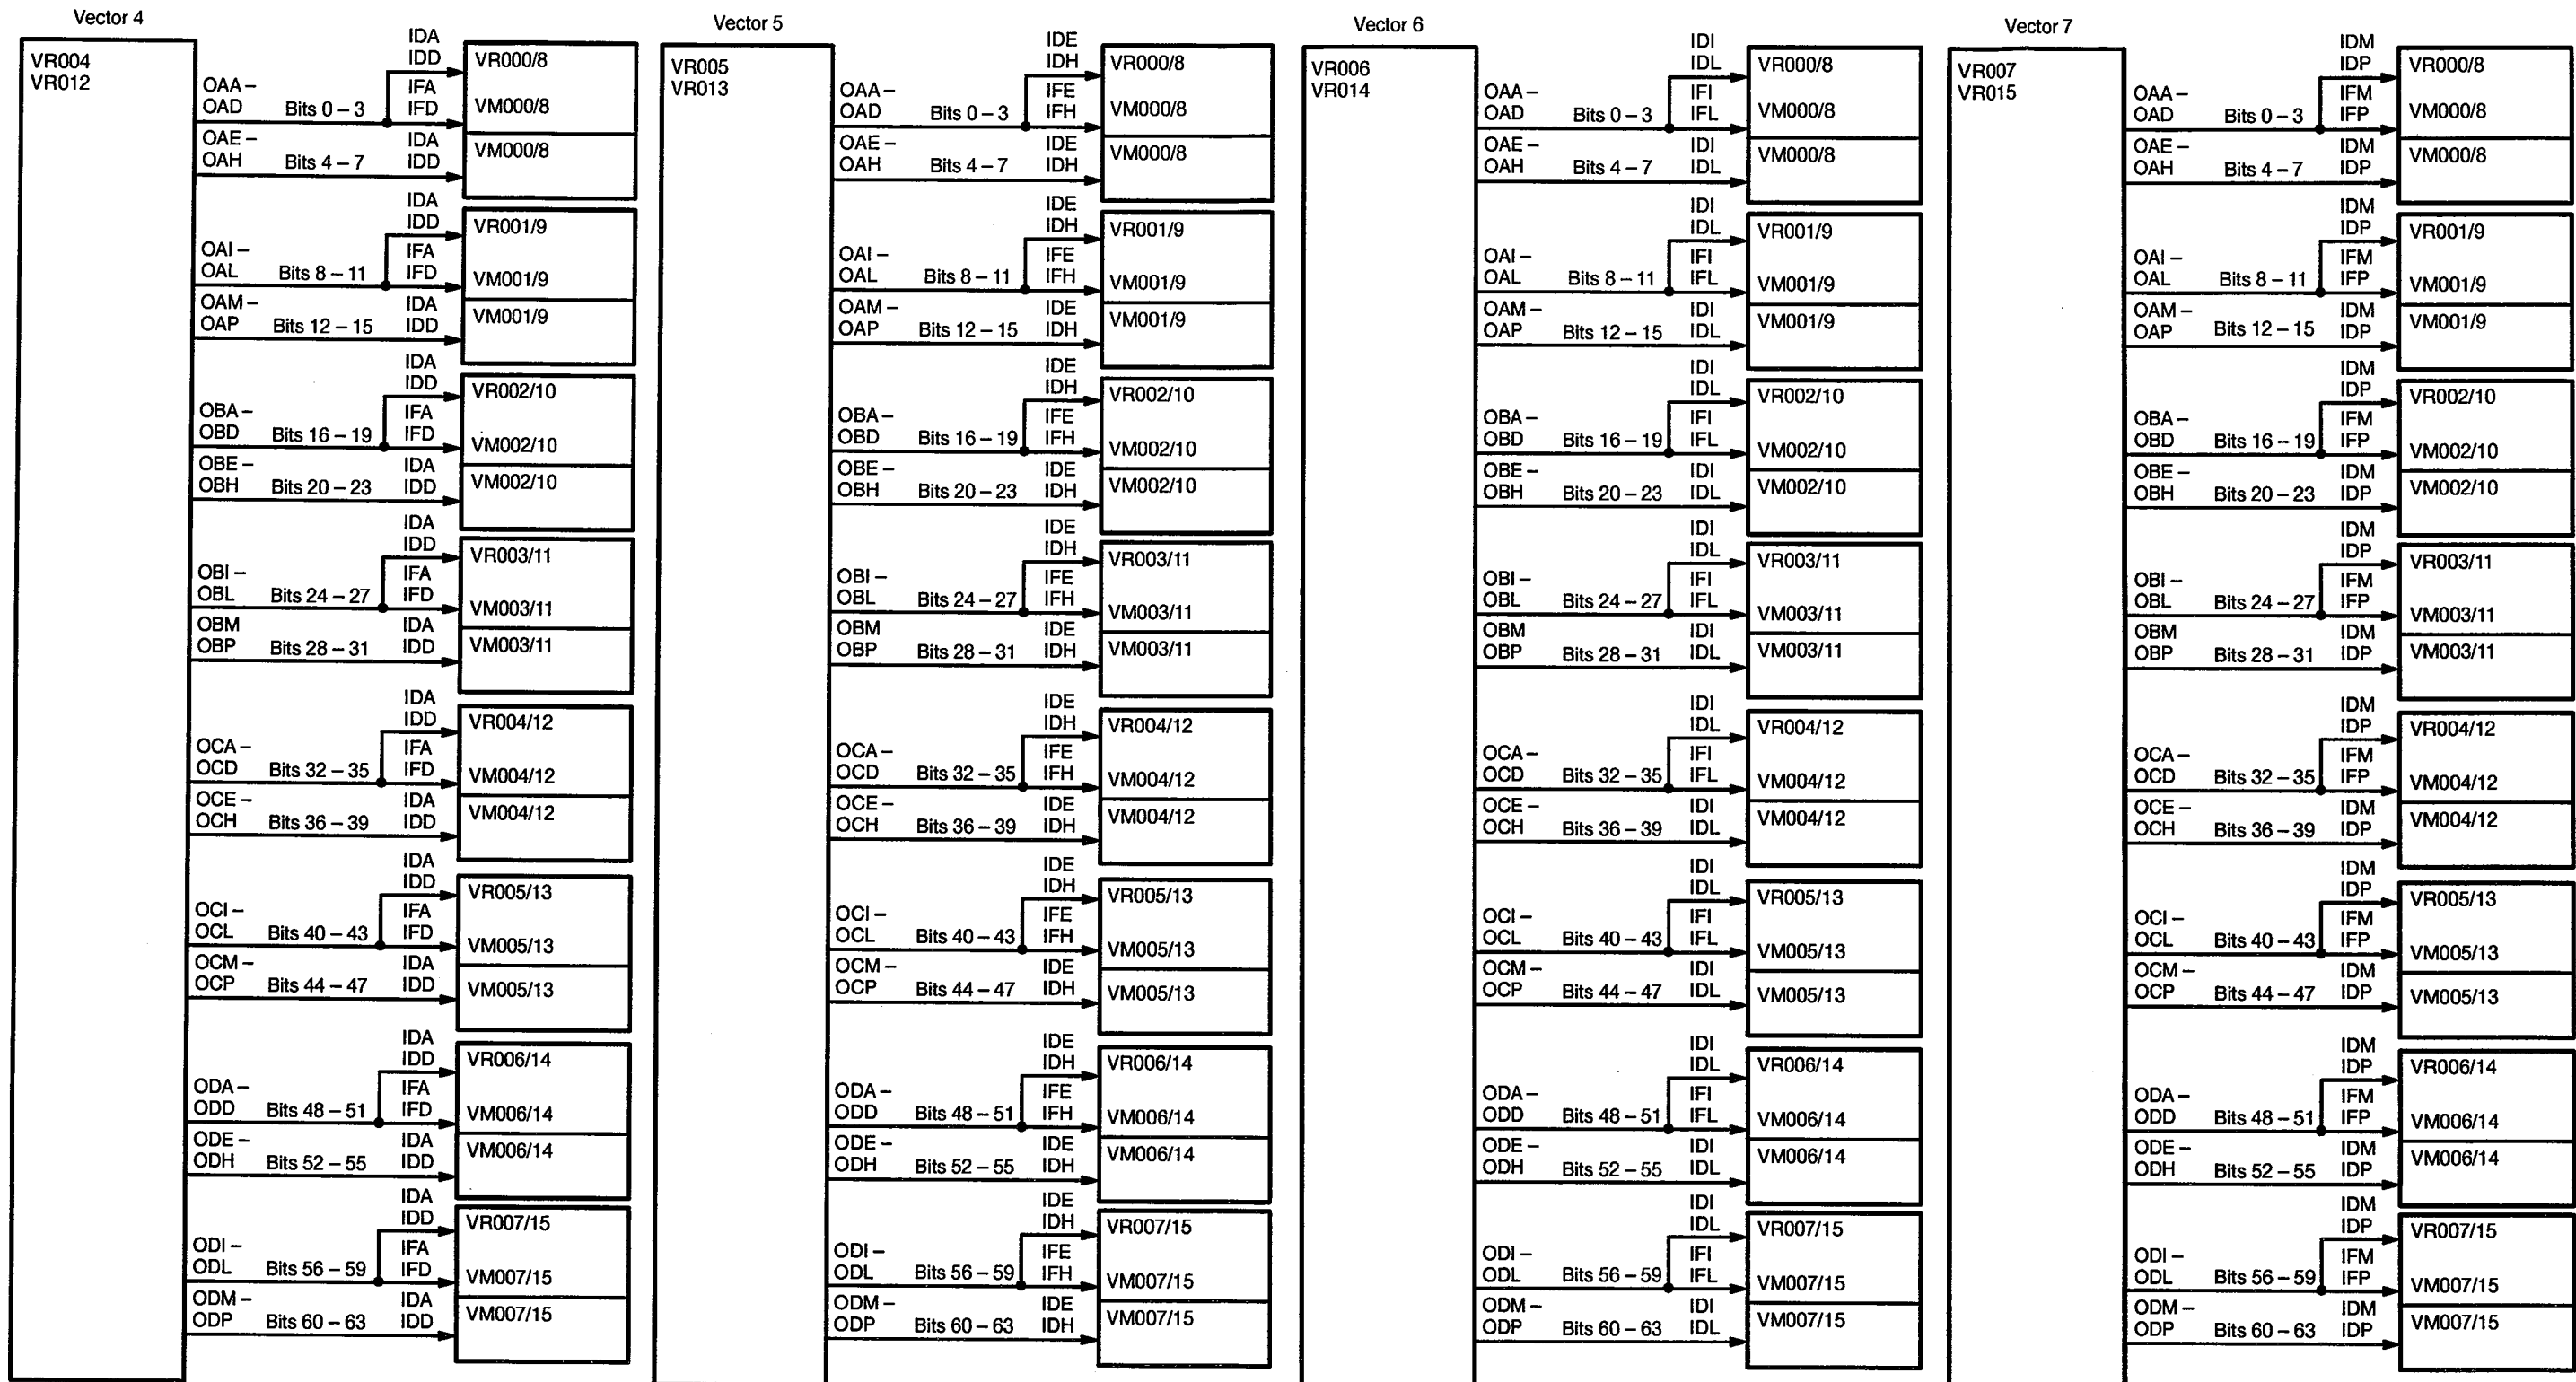

Figure 40. Vectors 4 through 7 Pipe 0/1 Read Data Path
- Figure 40 – vectors 4 through 7 pipe 0/1 read data path